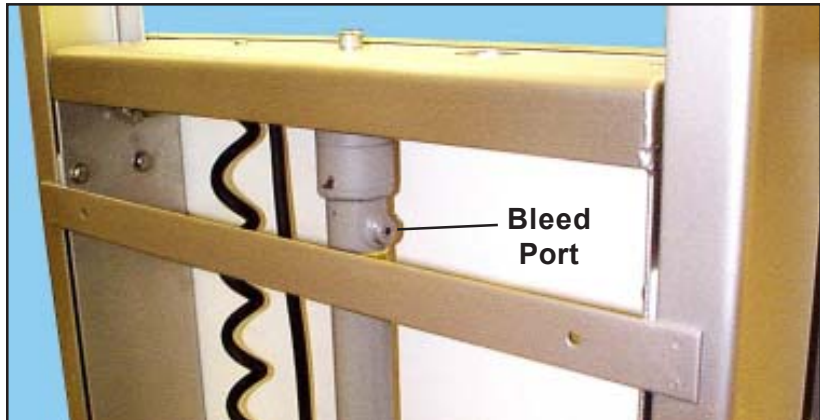

Figure 62. Bleed Port
3. With a 3/16-in. hex key (Allen wrench), remove the hex nut from the bleed port (Figure 62).